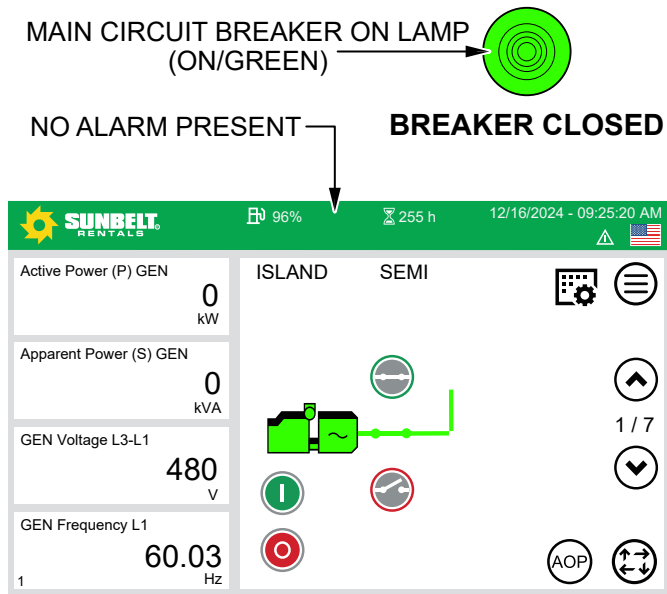

Figure 25. Circuit Breaker Closed
6. If the undervoltage release is *not* installed correctly, the circuit breaker will close normally (Figure 25) when the Main Circuit Breaker ON button is pressed: